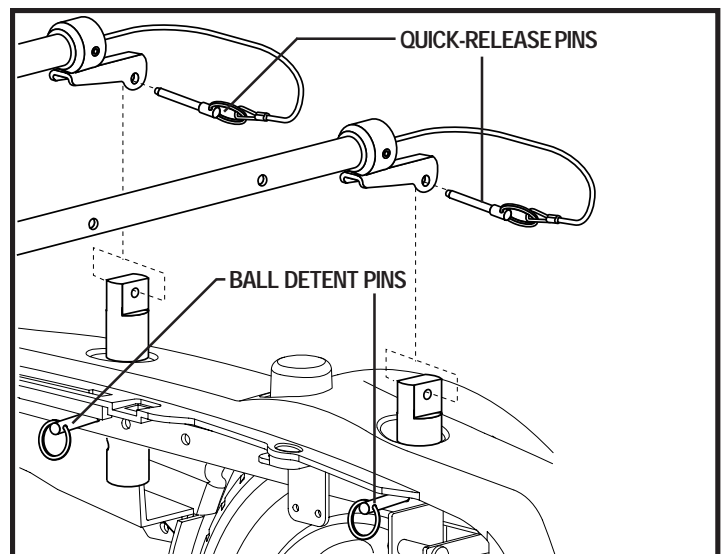

Figure 16. Seat Height Adjustment
6. Remove the quick-release pins from the trapeze bars (front and rear). See figure 16.
9. Remove the ball detent pin from each of the four seat towers. See figure 16.